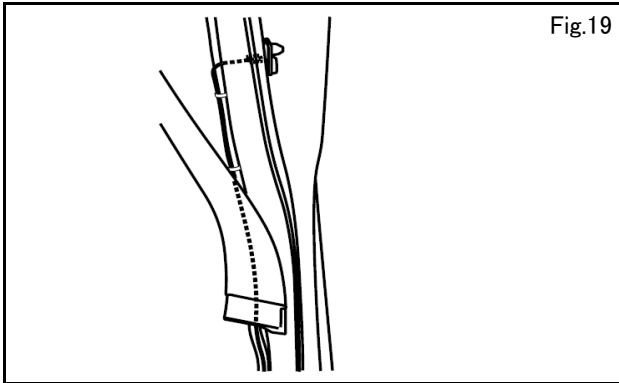

Fig.19
- 13) Fasten T-Harness to vehicle harness with Tie Wrap as shown in fig.19.